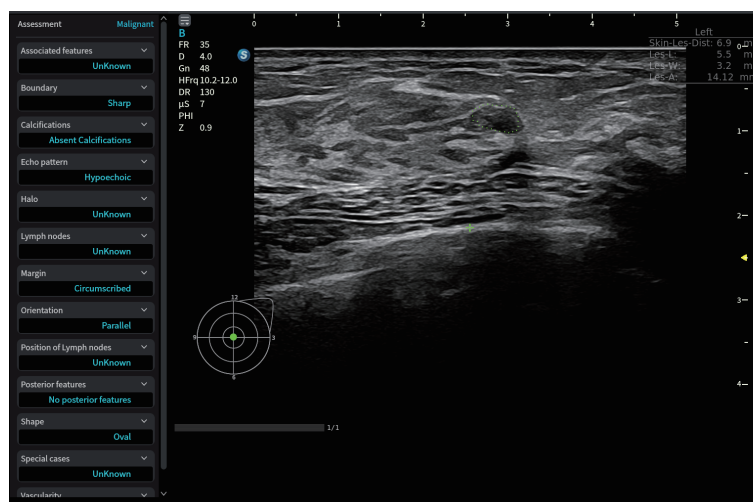

Figure 6-75 Image Display _ S-Breast
3. Tap **S-Breast** on the touch screen. The system automatically measures the nodule, as shown in Figure 6-75. The touch screen displays all the detected nodules.